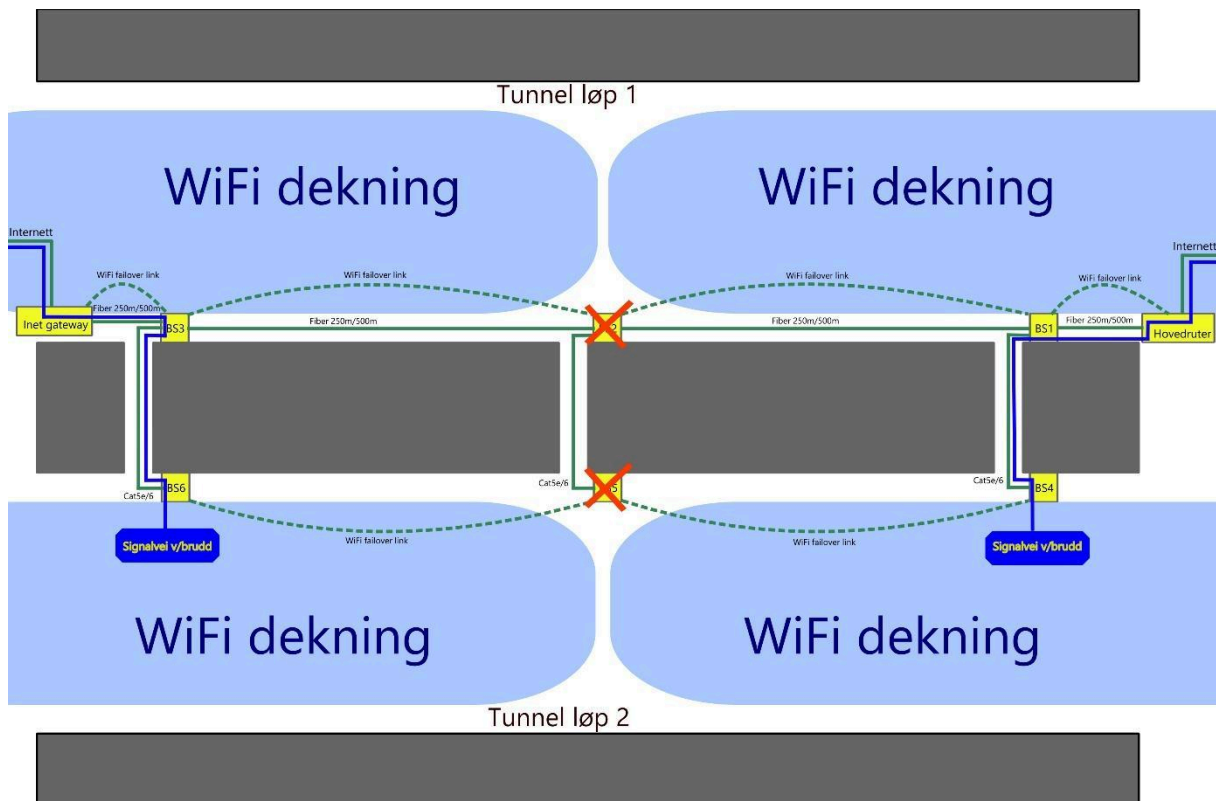

Figure 5: Signal path in the event of equipment failure in both routes at the same location
- Four independent Internet connections, of which two are active simultaneously (load balancing) and two are used as automatic backup. Distributed across two connections at each end of the tunnel. (Figure 5)